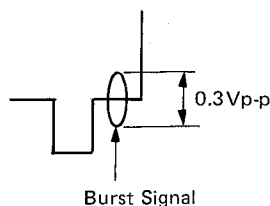

Figure 49.
- 3) Adjust R526 (PB. C. LEV.) so that the burst level can go to 0.3Vp-p as shown in Fig. 49.